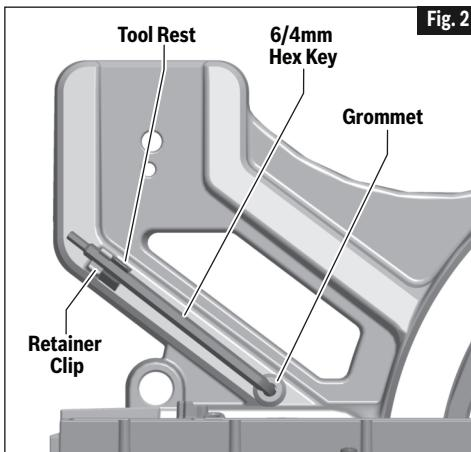

Fig. 2
**Storing the 6/4mm Hex Key** – There is a storage location on the saw to store the 6/4mm hex key. Insert the short leg of the hex key through the rubber grommet as shown. Place the long leg into the tool rest and press down into the retainer clip (see Fig. 2).